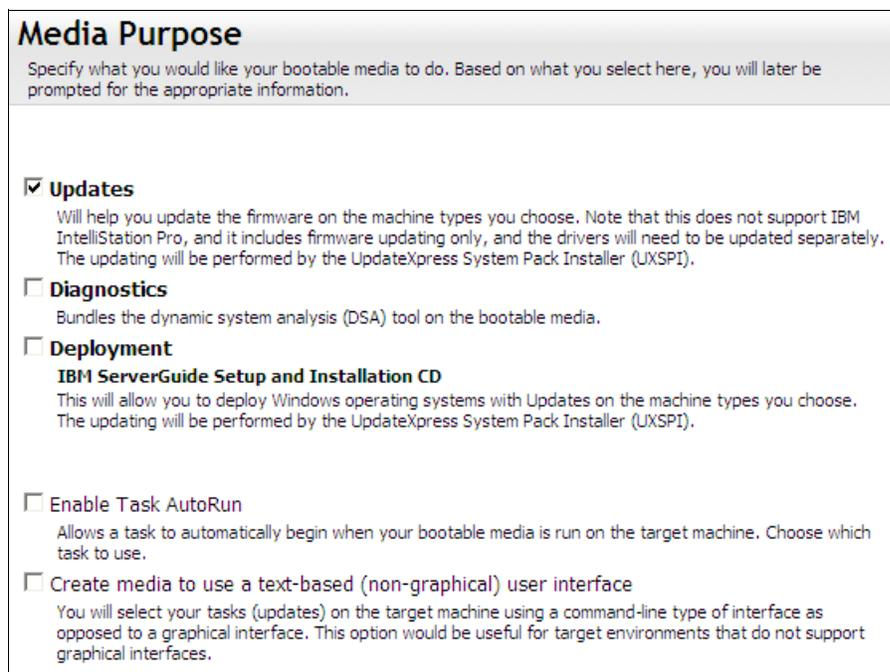

Figure 4-2 BoMC Media Purpose window
2. From the Welcome window, you can choose to load a previously saved configuration or to check for the latest version of this tool. Select either one, if applicable. If not, click **Next**. Figure 4-2 shows the window that is displayed.